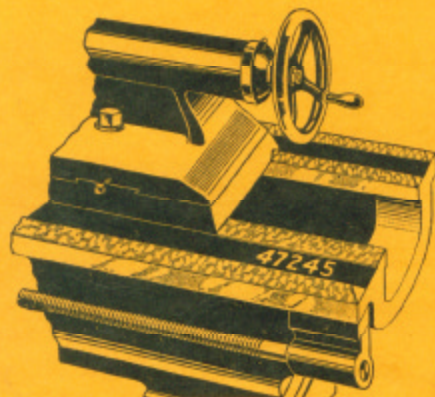

Fig. 1. Showing Location of Serial Number.
2. **Serial Number of Lathe.** The serial number of your lathe is stamped on the bed between the V-way and flat-way at the tailstock end (see Fig. 1.), and should be listed on your order. This number enables us to refer to our records which show the size, type and age of your lathe.